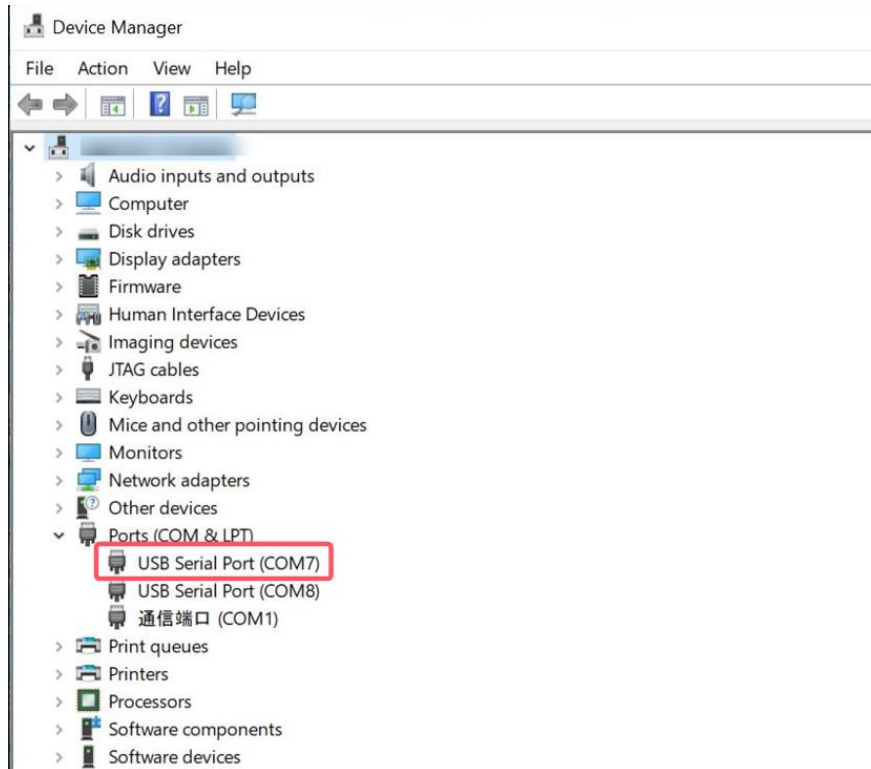

Figure 5-7 Device Manager
1. Open the **Device Manager** on your windows and check the **Port(COM&LPT)** tab. User may find the two **USB Serial Port(COM X)** on the list, the port shown on the top is for HPS, the bottom one is for FPGA. See **Figure 5-7**, the COM number of this host is COM7. *Note that the “COM7” on the Serial Line column needs to be modified according to the actual com port on the user's computer.*